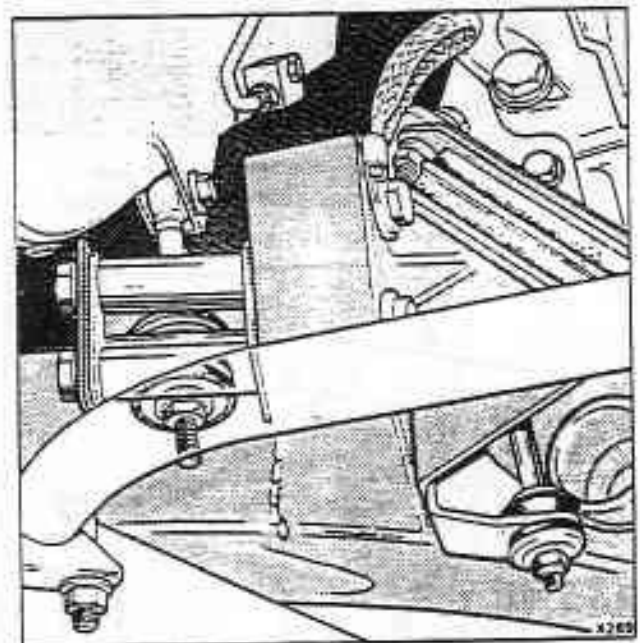

Fig. H2-8 Sub-frame to longeron tie-bar and engine damper (other than petrol injection cars)
36. On cars fitted with tie-bars at the rear of the sub-frame, (see figs. H2-8 and H2-9) disconnect the tie-bars from the body.